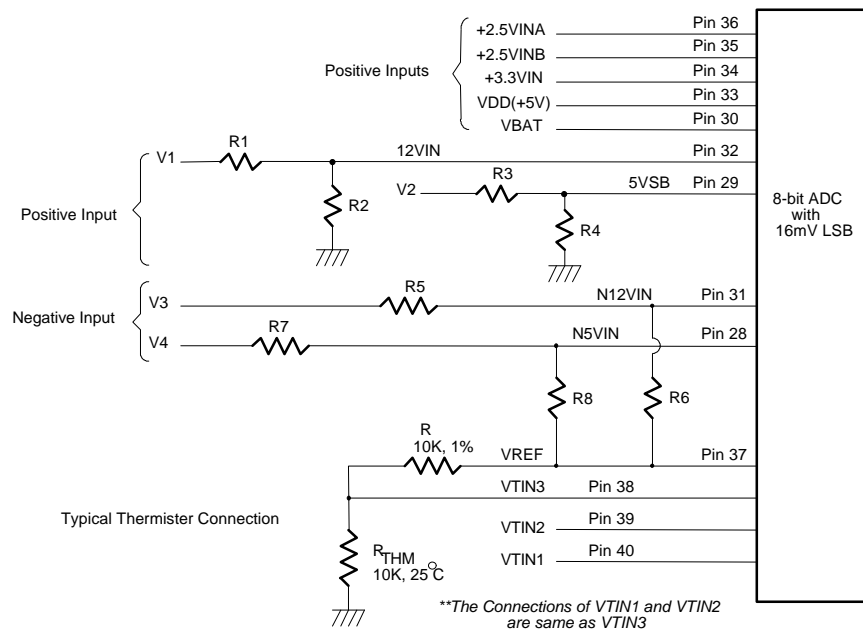

Figure 11.
The maximum input voltage of the analog pin is 4.096V because the 8-bit ADC has a 16mV LSB. Really, the application of the PC monitoring would most often be connected to power suppliers. The CPU V-core voltage ,+3.3V and battery voltage can directly connected to these analog inputs. The 5VSB and +12V inputs should be reduced a factor with external resistors so as to obtain the input range. As Figure 11 shows.
The negative voltage should be connected two series resistors and a positive voltage VREF (is equal to 3.6V). In the Figure 11, the voltage V3 and V4 are two negative voltage which they are -12V and -5V respectively. The voltage V3 is connected to two serial resistors then is connected to another terminal VREF which is positive voltage. So as that the voltage node N12VIN can be obtain a posedge voltage if the scales of the two serial resirtors are carefully selected. It is recommanded from Winbond that the scale of two serial resistors are R5=232K ohms and R6=56K ohm. the The input voltage of node -12VIN can be calculated by following equation.
The W83782D can connect three thermistors to measure three different environment temperature. The specification of thermistor should be considered to (1)  $\beta$  value is 3435K, (2) resistor value is 10K ohms at 25°C. In the Figure 11, the thermistor is connected by a serial resistor with 10K Ohms, then connect to  $VREF$  (Pin 37).